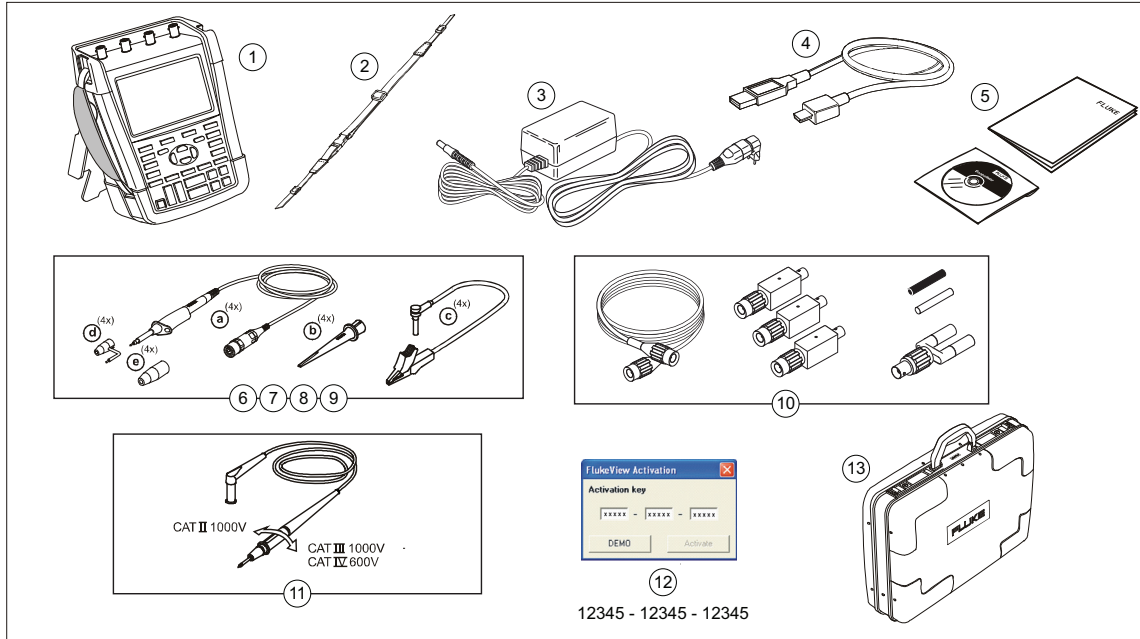

Figure 1. ScopeMeter Test Tool Kit
- **Do not connect the ground spring (Figure 1, item d) to voltages more than 42 V peak, 30 V RMS, or 60 V DC with respect to earth ground.**